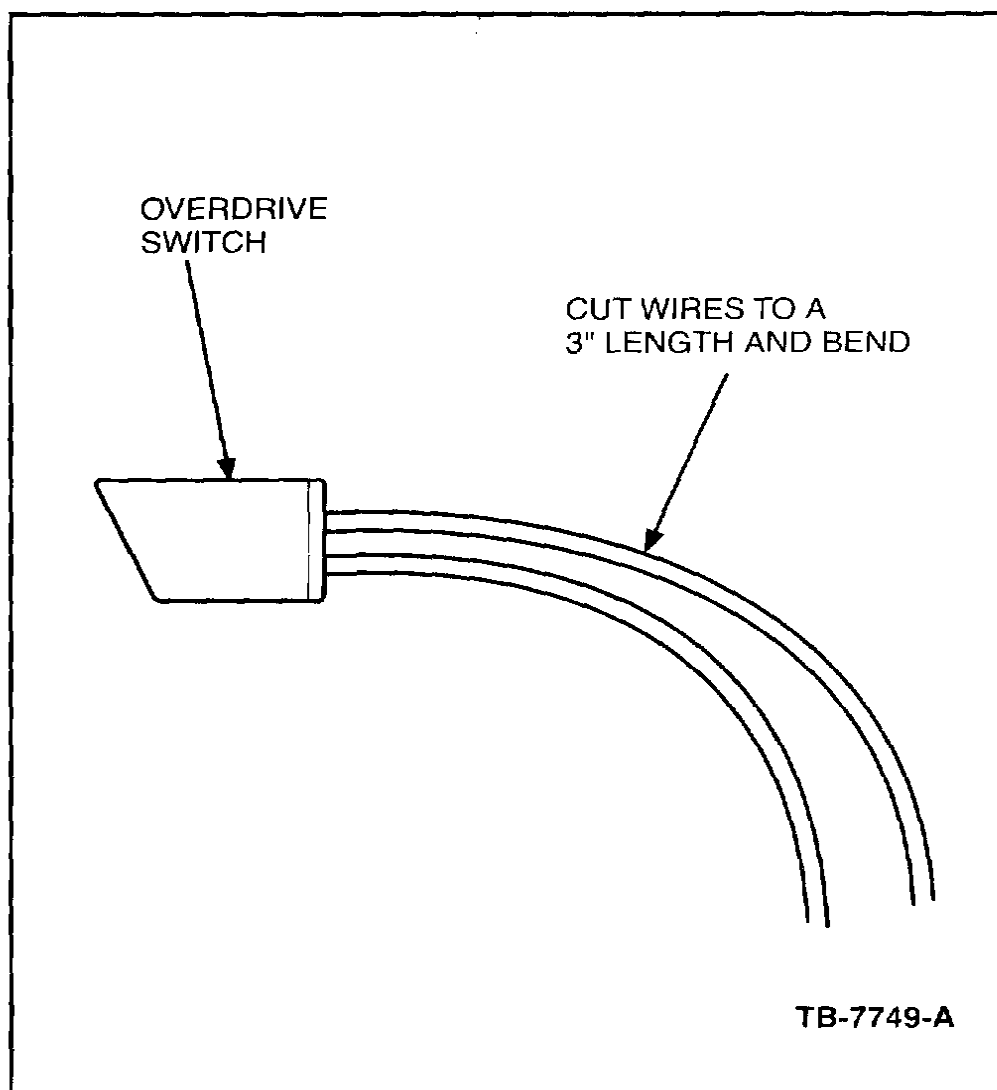

Figure 2
10. Install a new overdrive switch (OD) and wire assembly. Cut the wires three inches (3") from the switch and form the wires in an arc as shown in (Figure 2).